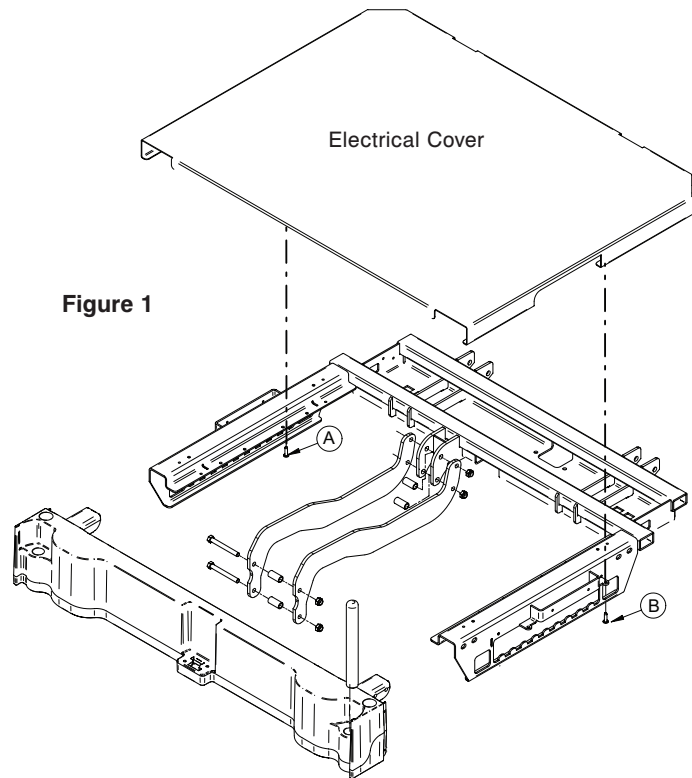

Figure 1
5. Using a Phillips screwdriver, remove the two screws securing the electrical cover and remove the cover (reference Figure 1 above, item A and B).
4. Using a Phillips screwdriver, remove the two screws securing the electrical cover and then remove the cover (refer to Figure 1 above, item A and B).